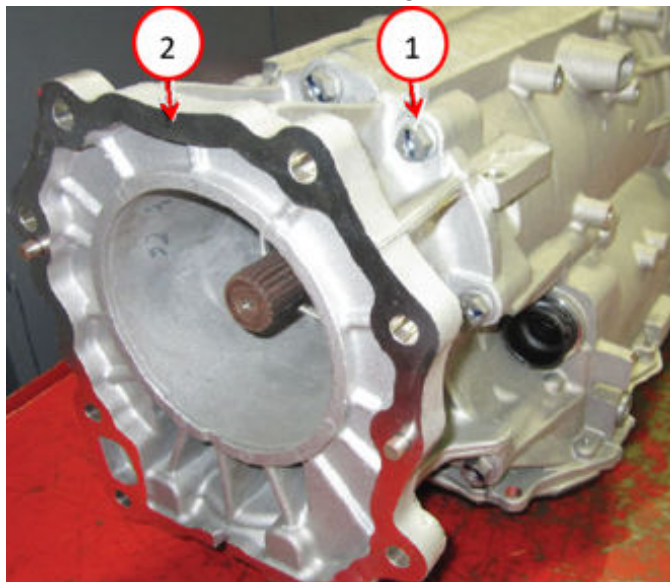

Fig. 53
78. For 4X4 ONLY if equipped, position the extension housing and install the extension housing bolts Fig. 53.